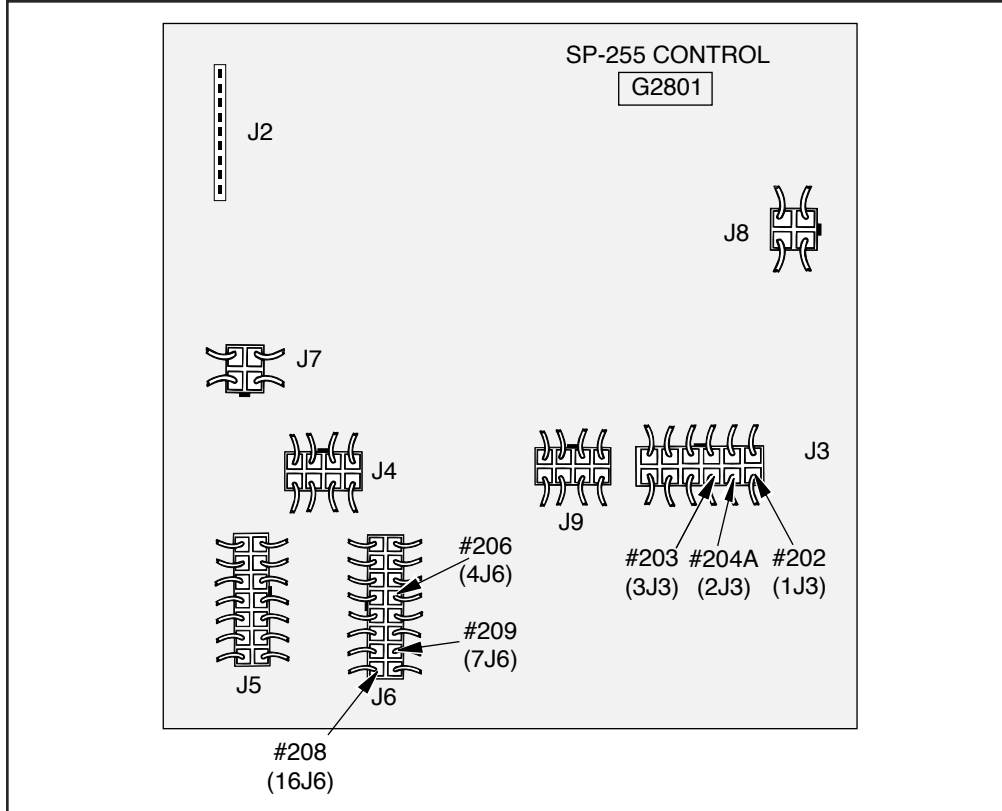

FIGURE F.1 - G2801 Control PC Board Main Transformer Test Points.
See Figure F.1.
- 9. Locate the following leads on Plug J6 on the G2801 Control PC Board. See Figure F.1.